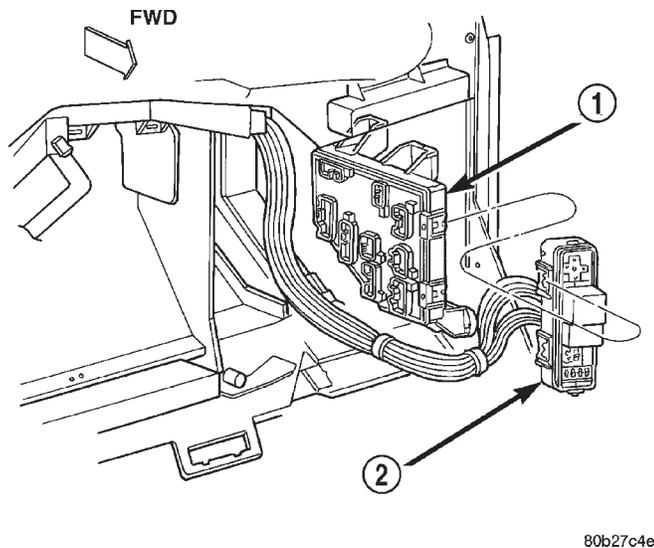

Fig. 11 Relay and Fuse Block Remove/Install
- (1) Disconnect and isolate the battery negative cable.
- (2) Remove the instrument panel assembly from the dash panel. Refer to **Instrument Panel Assembly** in the index of this service manual for the instrument panel assembly removal procedures.
- (3) Disconnect each of the instrument panel wire harness connectors. Refer to **Connector Locations** in the index of this service manual for the location of more information on the instrument panel wire harness connector locations.
- (4) Remove all of the fasteners that secure each of the instrument panel wire harness ground eyelets to the instrument panel components. Refer to **Connector Locations** in the index of this service manual for the location of more information on the ground eyelet locations.
- (5) Disengage each of the retainers that secure the instrument panel wire harness to the instrument panel components. Refer to **Connector Locations** in the index of this service manual for the location of more information on the instrument panel wire harness retainer locations.
(6) Push the relay and fuse block towards the left end of the instrument panel to disengage its mounting slots from the tabs on the Junction Block (JB) (Fig. 11).
(7) Remove the relay and fuse block and the instrument panel wire harness from the instrument panel as a unit.